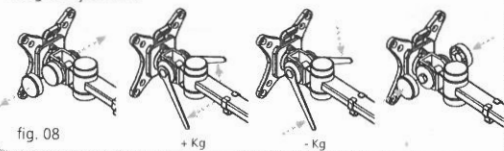

fig. 08
5. The head assembly can be adjusted to support monitors of different weights (fig. 08).